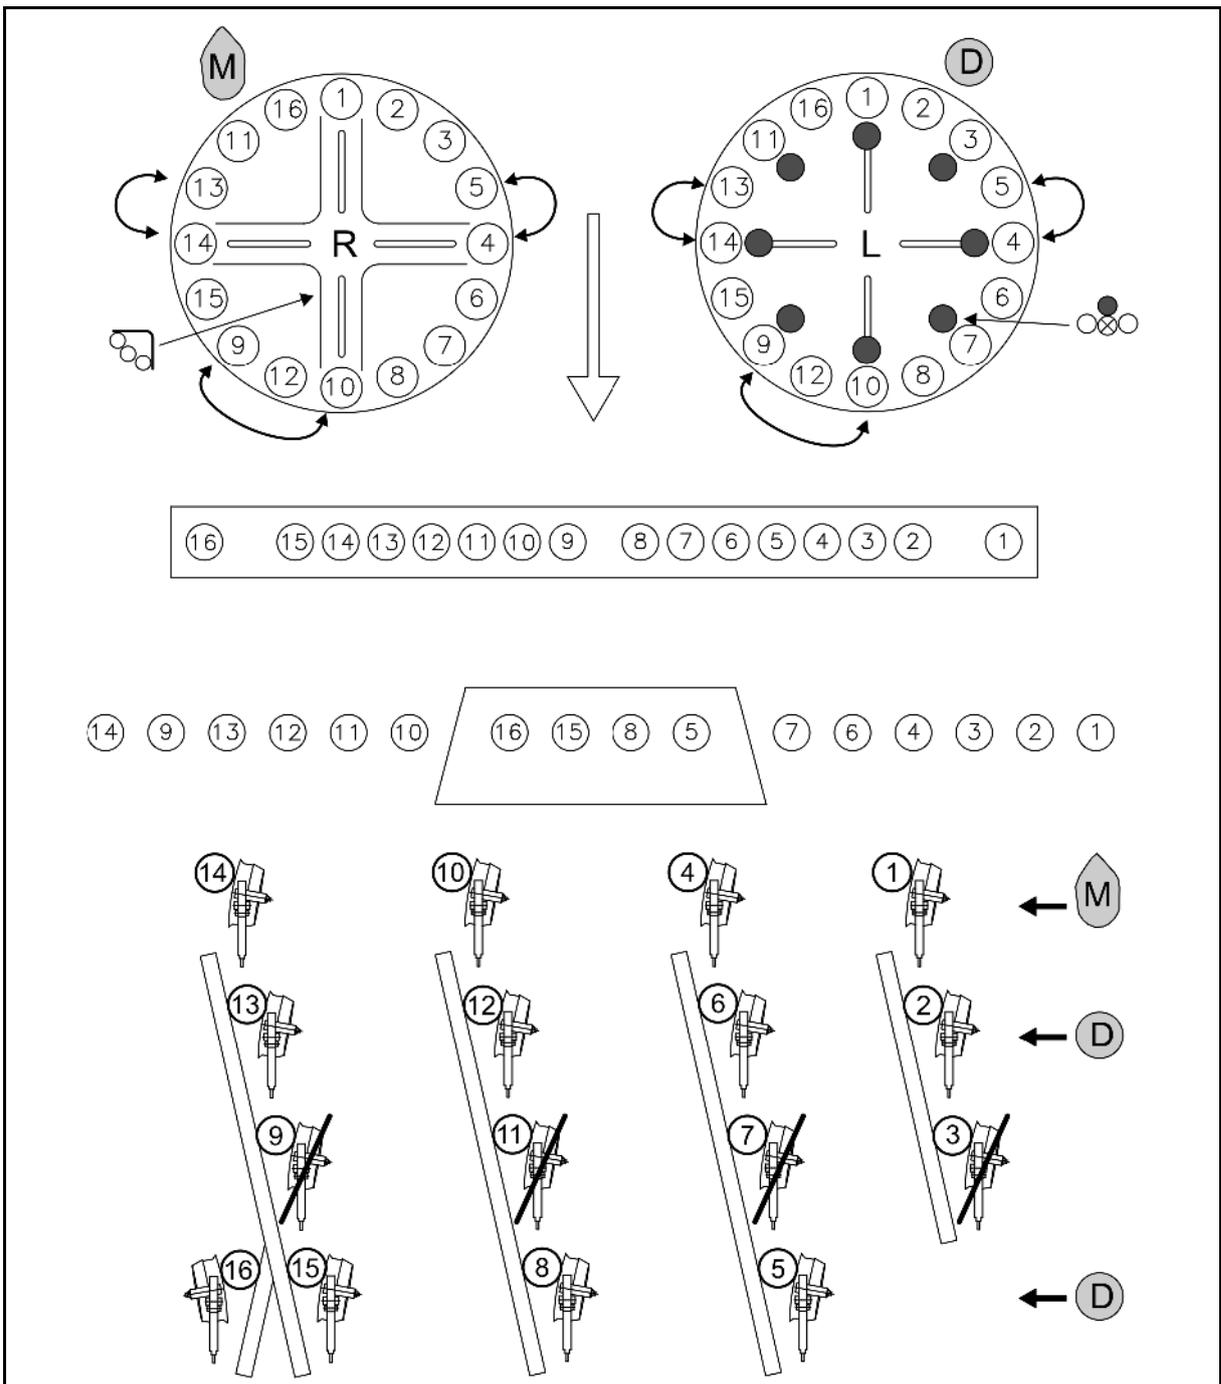

Fig. 37
- Maize M: Install the locking plates  according to Fig. 37.
- Fertiliser D: Install the sealing plugs  according to Fig. 37.